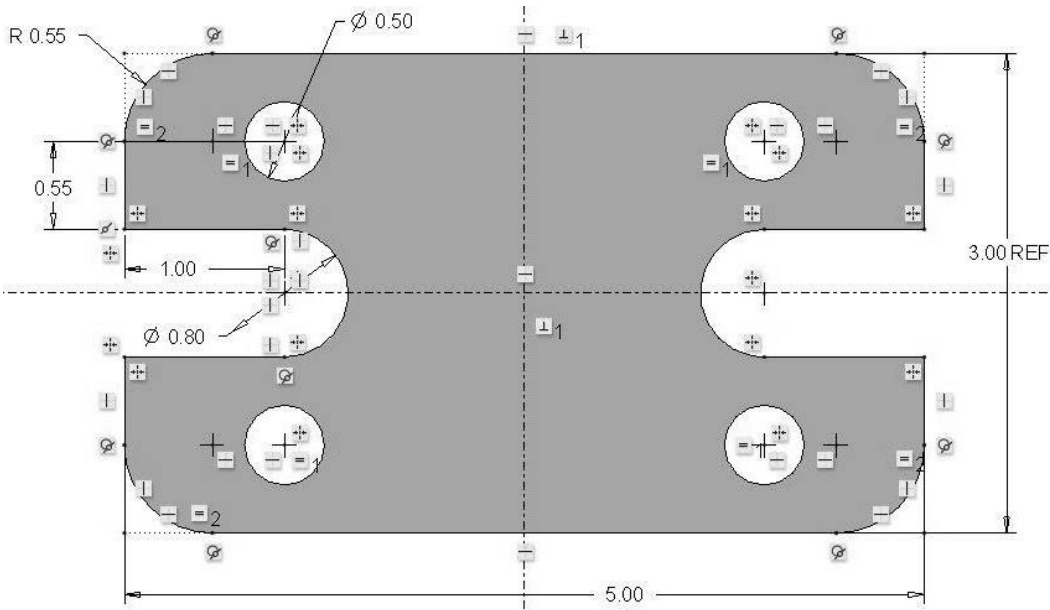

Figure 3-75 Problem 6—Cover Plate
- 3.6 Draw the front view of "cover_plate" (Figure 3-75). **Design Intent**—The plate is symmetric about its center in both directions. Why does the 3.00 dimension have the letters REF after it?